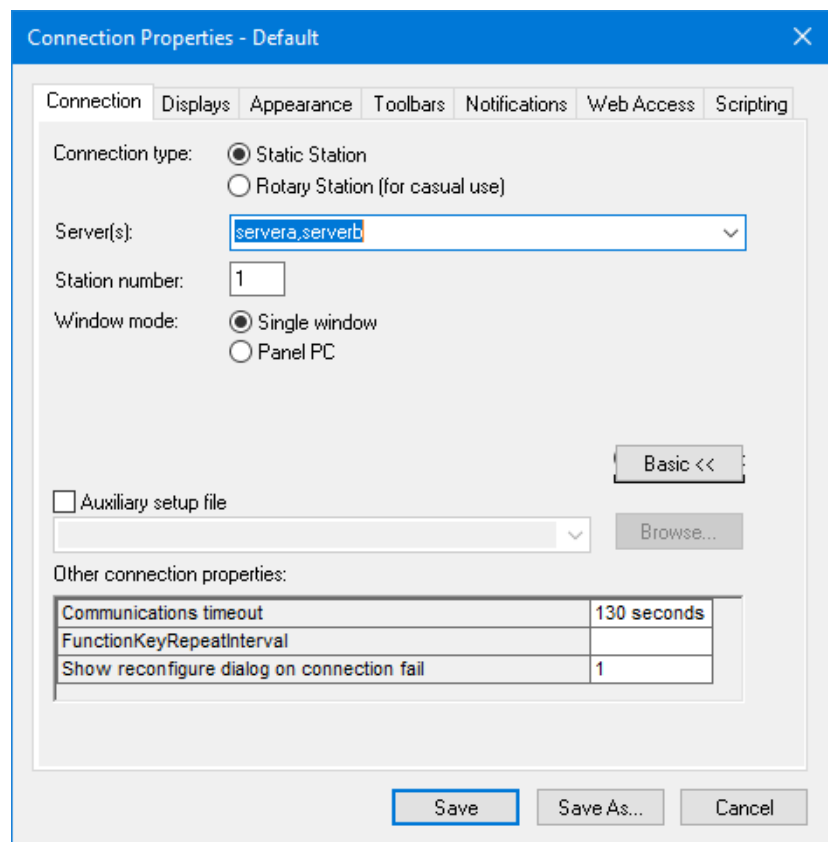

Figure 7: Connection properties
5. Type the server names separated by comma, in “Server(s)” followed by Enter (see Figure 7)